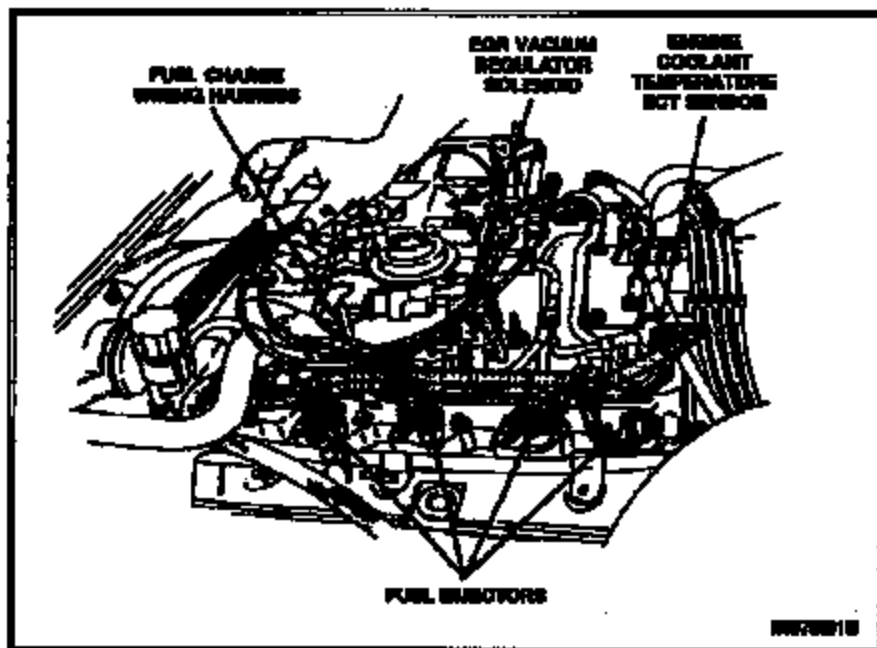

Figure 2
8. Disconnect fuel charge wiring harness from right side fuel injectors, Engine Coolant Temperature (ECT) sender and EGR Vacuum Regulator (EVR) actuator. See Figure 2. Position right side fuel charge wiring harness away from intake manifold.